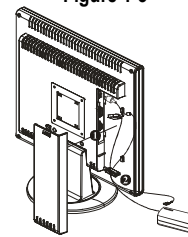

Figure 1-4
1. Remove the back panel ❶ from the rear of the monitor. (See Fig. 1-4)